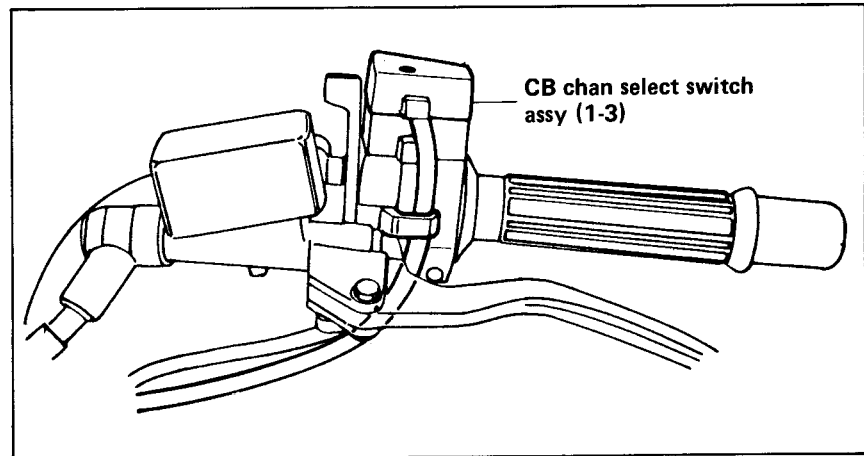

Fig. 12-2
- 2) Secure the wires of the CB channel select switch to a hook at the rear side of the left handle switch. (Fig. 12-2)